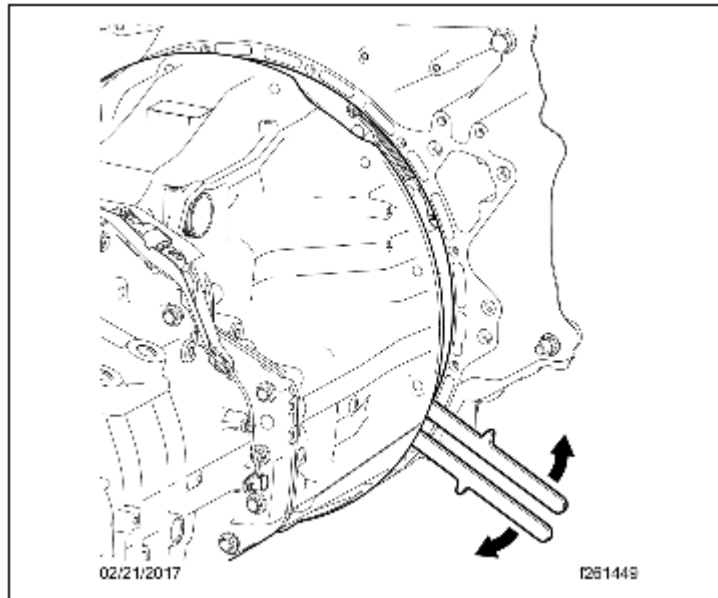

Fig. 4, Aligning the Input Shaft Splines with the Clutch
2. Raise the transmission up. Using input shaft pliers (Table 1), align the splines with the clutch, then fit the transmission to the flywheel housing. See Fig. 4.